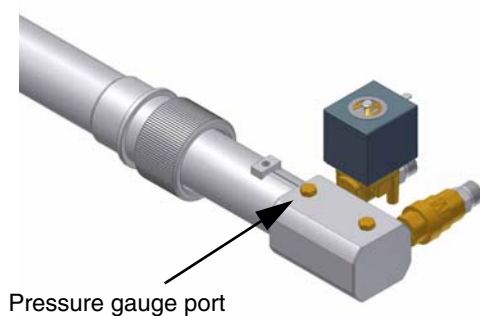

Fig. 18
- 9 the nozzle supply pressure is already factory-set and must not be changed. Only if necessary, adjust the supply pressure as follows (see related paragraph); insert a pressure gauge into the port showed on Fig. 18 and act on on the pump adjusting screw **VR** (see Fig. 17) as to get the nozzle pressure at 20bar or 25bar (according to the nozzle model: Bergonzo or Fluidics nozzle - see page 18).